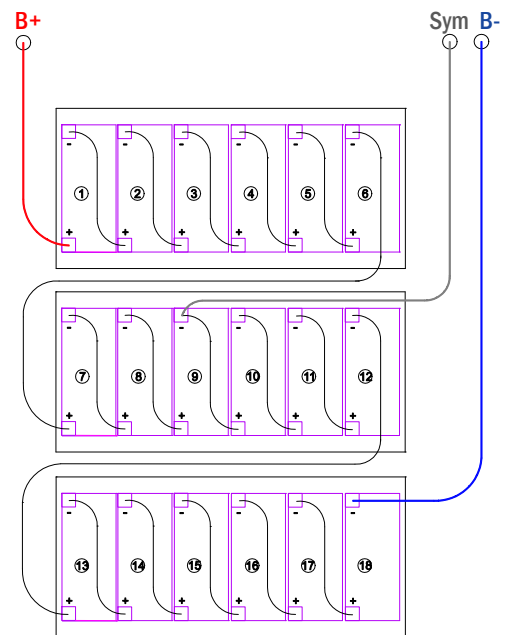

Figure 2: Wiring of the batteries top view
**1. Mounting and wiring of the batteries.** Make sure that the battery fuses F2/F3/F4 have been removed. Mount the batteries (18 pieces 12V each), connect them in series (see fig. 2) and connect the cables coming from the battery terminal (13) (observe correct polarity: red = B+/positive pole, blue = B-/negative pole, grey = symmetry). Incorrect polarity is acoustically indicated by a beep. The symmetry cable (grey) has to be connected to one of the ends of the connection cable between battery no. 9 and battery no. 10.
**2. Connection of the de-energised mains cable to the mains terminal.** Make sure that the mains cable is de-energised and connect it to the mains terminal (12). **Caution:** The mains cable gets energised only in step 7.
**3. Mains switch off and operation mode switch to charging operation.** Switch off the mains switch (9) (position "0") and switch the operation mode switch (16) to charging mode (also position "0").
**4. Connection of the electric circuits.** Connect the installed and checked lighting circuits to the circuit terminals (7). **Note:** The circuits to be connected have to be checked for installation errors such as short circuit and earth fault prior to connection.
**5. Insertion of the battery fuses F2/F3/F4.** Please insert the battery fuses (11) by means of a suitable screw driver.
**6. Insertion of the mains fuse F1.** Please insert the mains fuse (11) by means of a suitable screw driver.